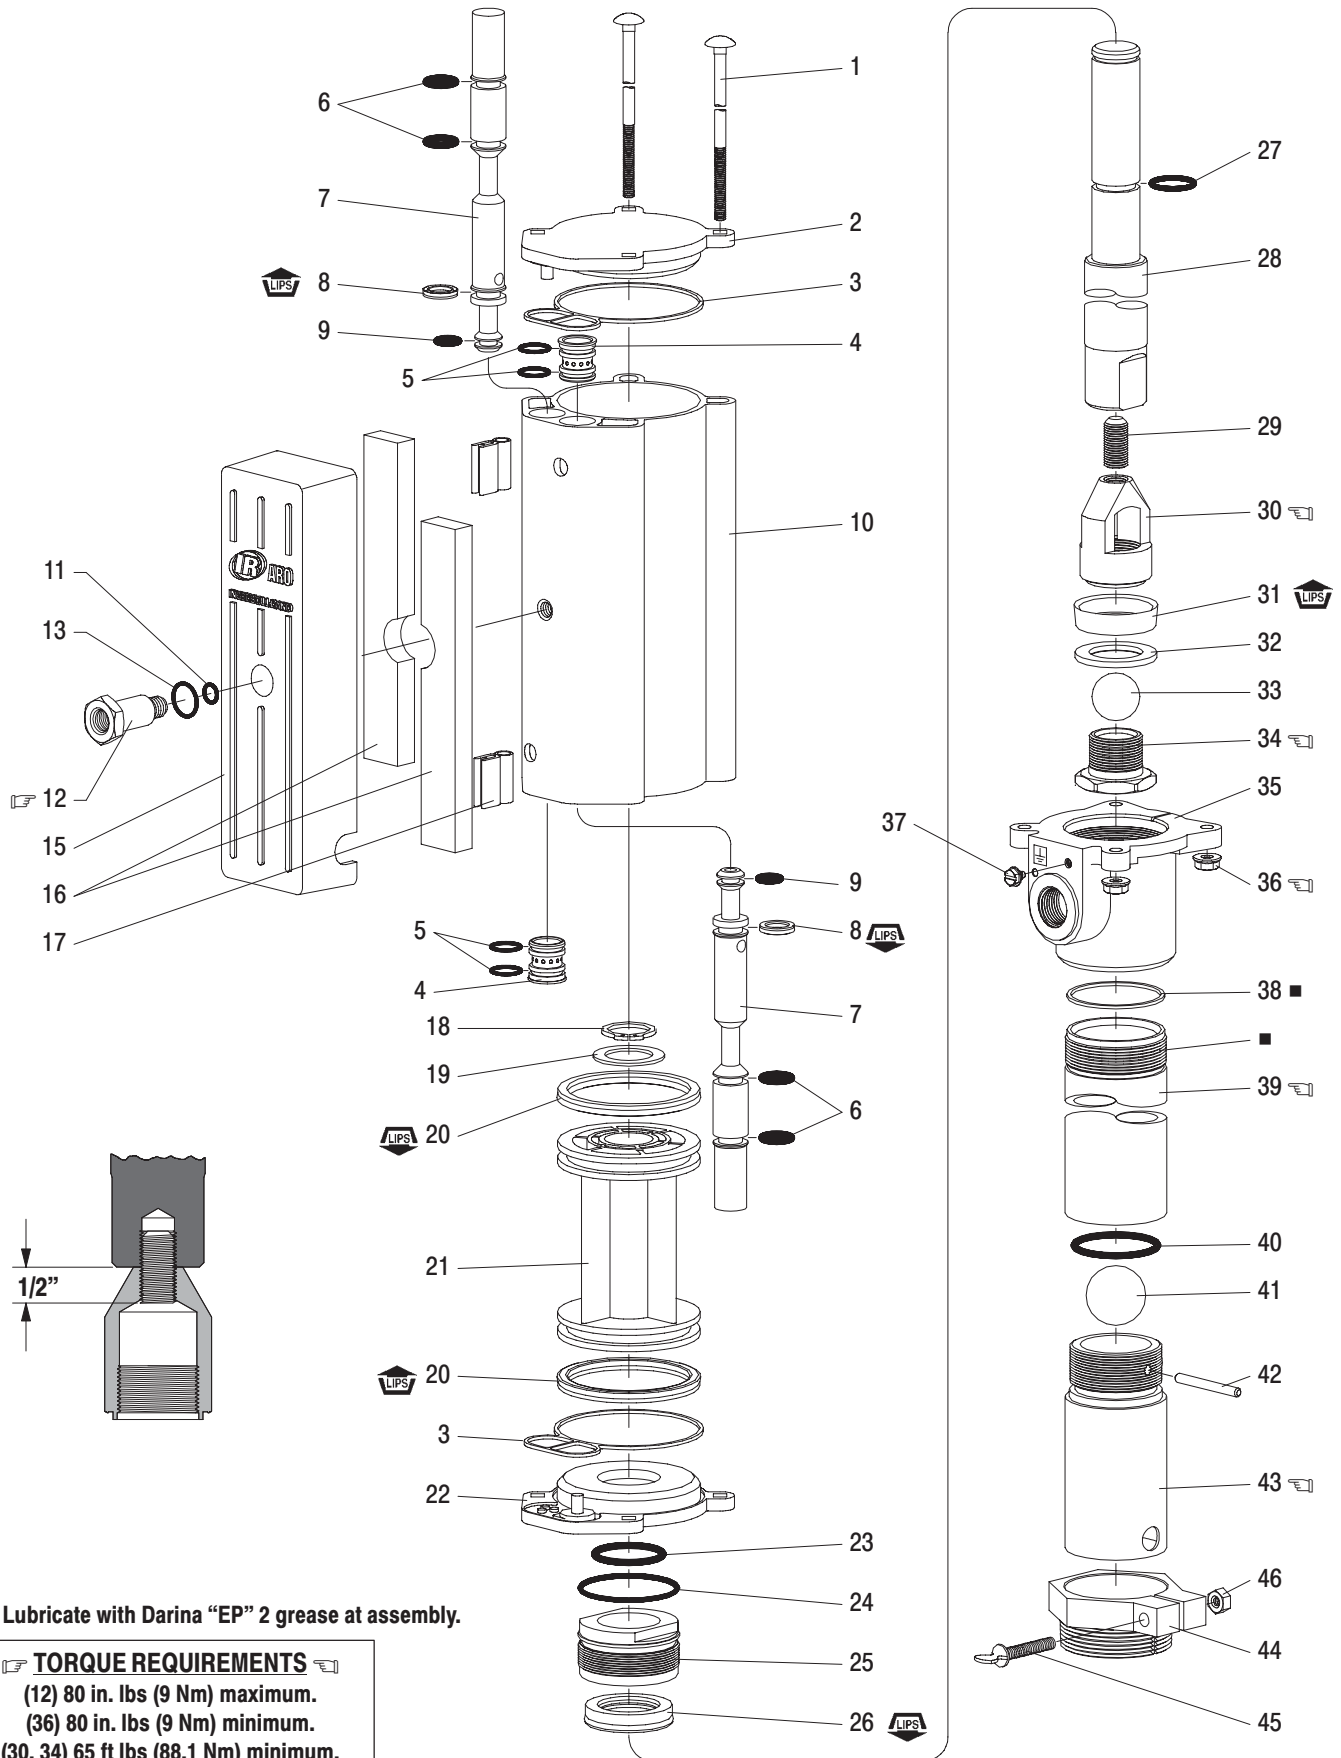

Figure 2
**NOTE: All threads are right hand. Refer to figure 2 (page 3). Disconnect air supply and relieve all system pressure prior to servicing.** Carefully remove the parts, inspect for damage, nicks or excessive wear and determine if any parts will need replacement.
1. Using a 7/8" wrench, unthread and remove (12) adapter and (11 and 13) "O" rings, releasing (15) muffler housing.
2. Using a 7/16" wrench, remove (36) nuts.
3. Remove four (1) bolts, (2) upper cap and (3) gasket.
4. Remove (10) cylinder, containing (4) sleeves and (7) spools.
5. Using (1) bolt, push (7) spools and (4) sleeves out "sleeve" end of (10) cylinder.
6. Pull up on (21) piston and (22) lower cap, allowing access to (25) bushing.
7. Using a 1-5/8" wrench, unthread (25) bushing and pull (28) piston rod and components from pump.
8. Clamp on flats of (28) piston rod in a vise. Using an 11/16" wrench on flats of (30) cup follower, unthread and remove from (28) piston rod.
9. Clamp on flats of (30) cup follower in a vise. Using a 1-1/2" wrench, unthread and remove (34) inner check seat, releasing (32) washer, (33) ball and (31) piston cup.
10. Remove (25) bushing from (28) piston rod.
**NOTE: Thoroughly clean and lubricate all seals. Replace all soft parts with new ones included in the repair kit.** Note: Refer to the illustration (figure 2, page 3) for "U" cup lip seal direction.
1. Replace (27) "O" ring on (28) piston rod.
2. Replace (20) "U" cups on (21) piston and assemble (21) piston onto (28) piston rod, securing with (19) washer and (18) retaining ring.
3. Assemble (3) gasket to (22) lower cap and assemble (22) lower cap and (23) "O" ring onto (28) piston rod.
4. Assemble (33) ball and (31) piston cup to (30) cup follower, securing with (32) washer and (34) inner check seat.
5. Replace (26) packing in (25) bushing.
6. Replace (24) "O" ring on (25) bushing and assemble (25) bushing onto (28) piston rod.
7. Clamp on flats of (28) piston rod in a vise.
8. Assemble (29) rod and (30) cup follower to (28) piston rod and tighten by using a 1-1/2" wrench on (34) inner check. NOTE: Torque (34) check seat to 65 ft lbs (88.1 Nm).
9. Clamp (39) tube horizontally in a vise.
10. Assemble (28) piston rod and components into (35) base.